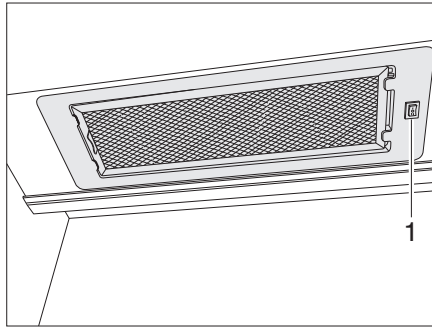

Fig. 128 Extractor hood
- Use the switch (Fig. 128,1) to turn the extractor hood on and off.